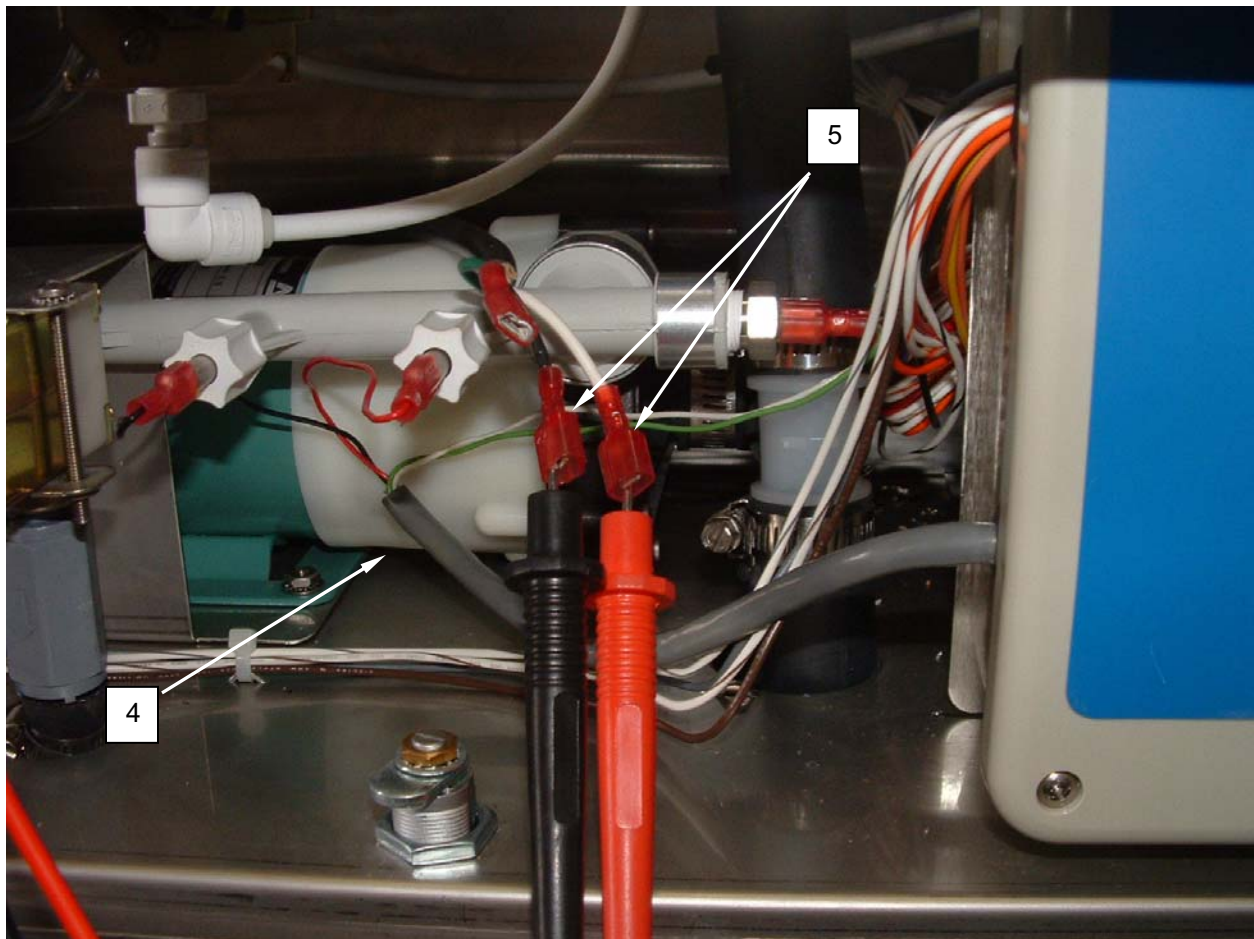

Figure 2. Test the Pump Motor.
2. Unlatch key lock and remove cover (**Figure 2, Item 2**).
3. Tag and disconnect the wiring from the pump (**Figure 2, Item 4**).
4. Use an ohmmeter to test for 25 ohms resistance between the motor leads (**Figure 2, Item 5**).
5. Use an ohmmeter to test for infinite resistance between each motor lead (**Figure 2, Item 3**) and ground.
6. Replace a pump (**Figure 2, Item 4**) with an open motor, or a motor that has shorted to ground.
7. Connect the wiring to the pump (**Figure 2, Item 4**) as tagged.
8. Install cover (**Figure 2, Item 2**) and latch.